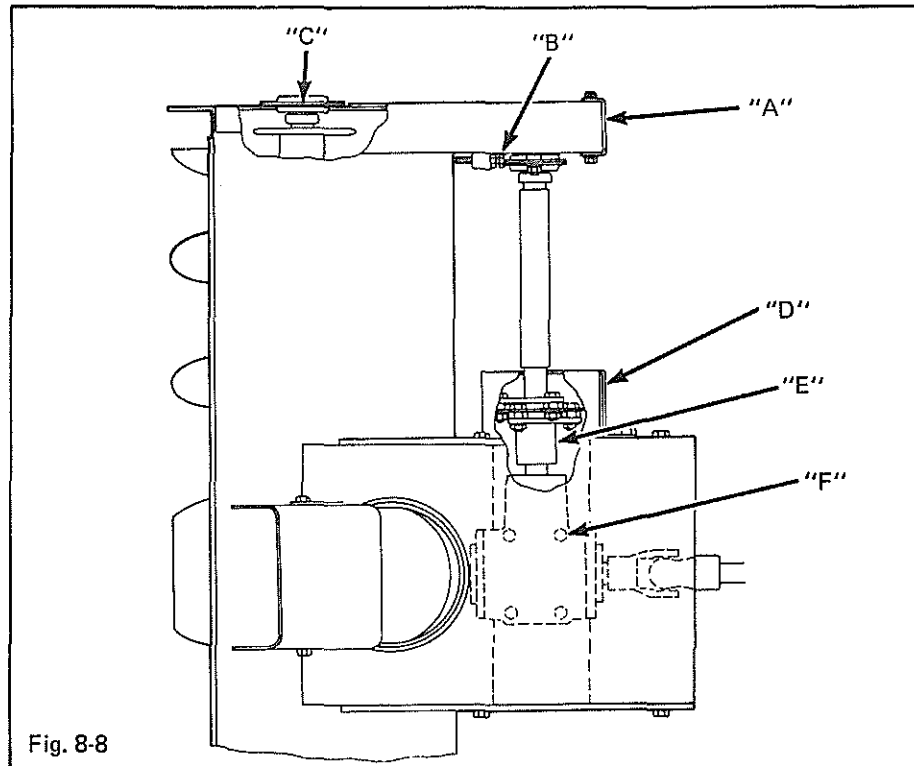

Fig. 8-8
1. Remove cover (D), Figure 8-8.
2. Loosen hub (E) from gear case shaft by unscrewing set screws.
4. Remove the (4) screws (F) under the housing and remove the gear case.